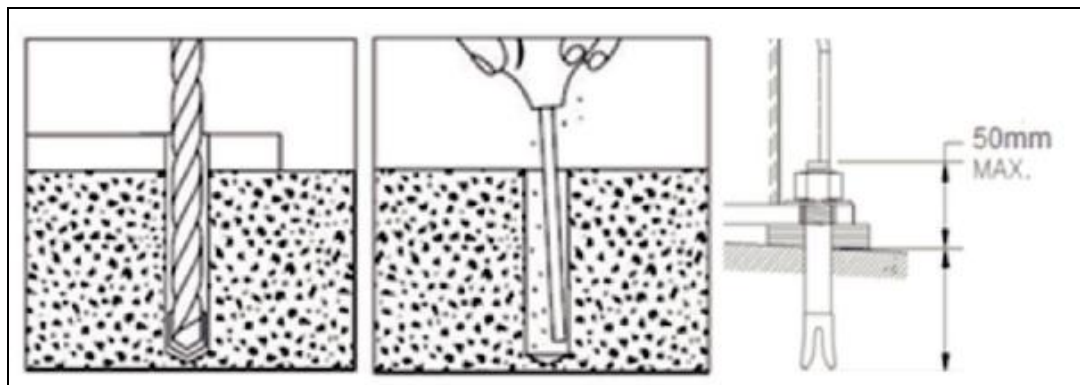

Figure 5
7.3 Place the main column on the foundation, drill a hole with an impact drill, clean the residual dust in the bolt hole with a vacuum cleaner, and tap the expansion bolt into the hole with a hammer. The height of the expansion bolt exposed above ground should not be greater than 50mm, and the nut should not be tightened. (Figure 5)